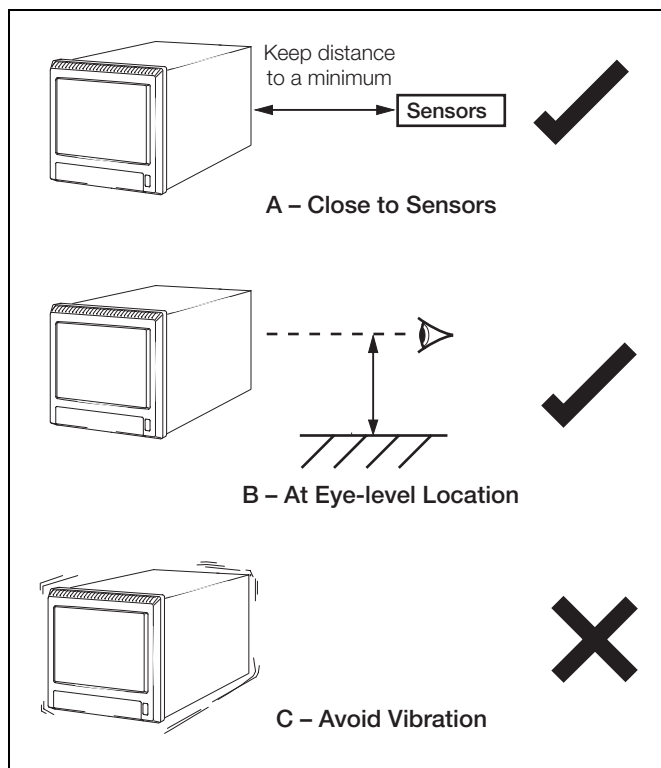

Fig. 5.1 General Requirements
5.1 Siting – Figs. 5.1 and 5.2